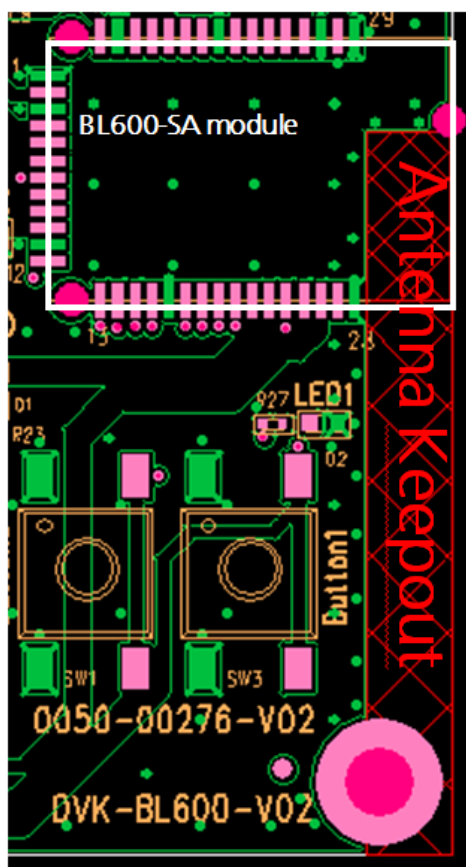

Figure 10: Antenna keep-out area (shown in red), corner of the BL600 development board for BL600-SA module.
- The BL600 development board has the BL600-SA module on the edge of the board (not in the corner). The antenna keep-out area is defined by the BL600 development board which was used for module development and antenna performance evaluation is shown in Figure 10, where the antenna keep-out area is ~4.2 mm wide, 34.2 mm long; with PCB dielectric (no copper) height 1.539 mm sitting under the BL600-SA antenna.
- Host PCB Land Pattern and Antenna Keep-out for BL600-SA applies when the BL600-SA is placed in the corner of the host PCB. When BL600-SA cannot be placed as such, it must be placed on the edge of the host PCB and the antenna keep out must be observed. An example is shown in Figure 10.
- Follow the 50-Ohms trace design used on the BL600 development board (PCB stack-up in Figure 10). If this PCB-stack-up is not practical on customer design then design 50-Ohms for differing PCB stack-up.
4. BL600 development board has BL600-SA placed on the edge of the PCB board (and not in corner) for that the Antenna keep out area is extended down to the corner of the development board, see section PCB Layout on Host PCB for BL600-SA, Figure10. This was used for module development and antenna performance evaluation.